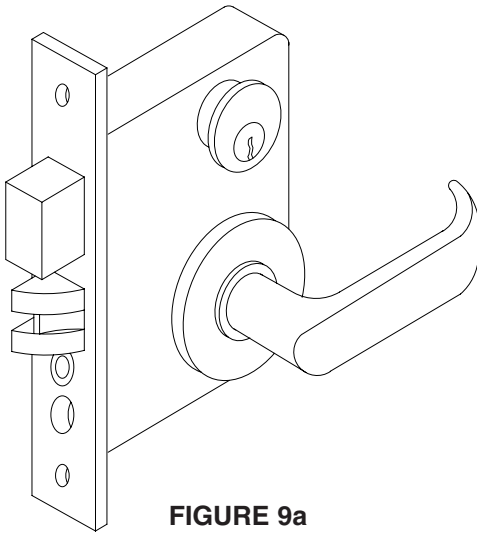

FIGURE 9a
1. The Mortise Lock, Figure 9a, is installed in a prepared recess (mortise) in the door. Working parts are contained in a rectangular case with holes for cylinder and spindle. Anti-friction split bolts are available for smooth retraction of the lock bolt. The lock front may be armored to protect cylinder screws and lock fasteners against burglars. Trim may be either sectional or escutcheon.